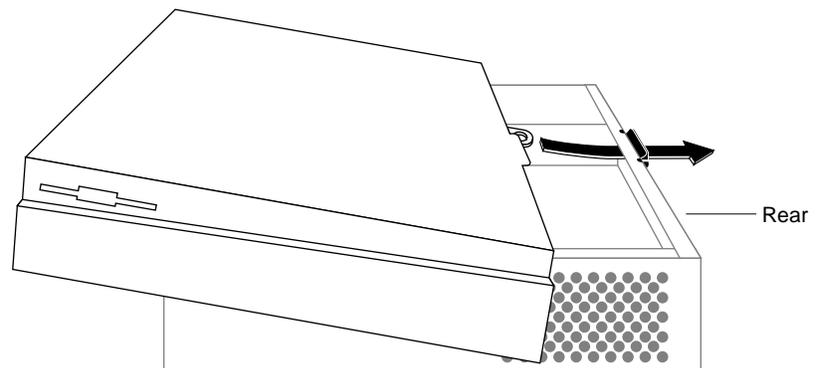

Figure 2-12 Replacing the Top Cover on the Indy Workstation
1. Facing the front of the system, lower the cover a few inches from its fully closed position, as shown in Figure 2-12.